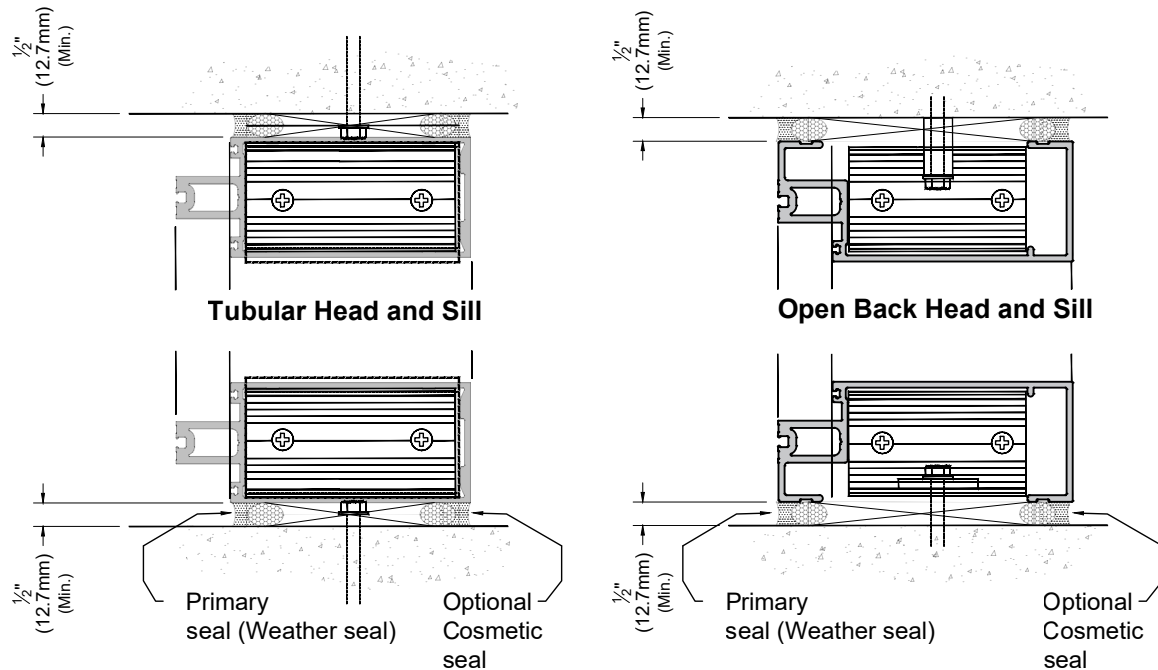

Fig. 44.2
- B. Apply sealant around the perimeter of the frame and tool the sealant. See **Fig. 44.1** and **Fig. 44.2**.